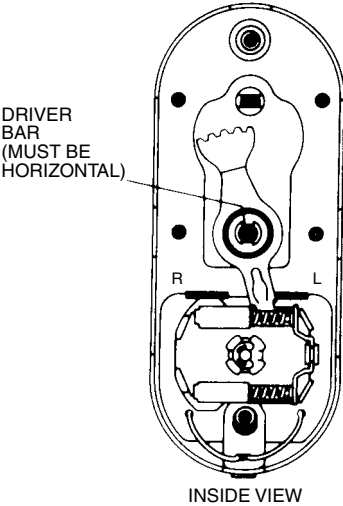

Figure 13.81 Changing hand, Step 12.
12. Install the driver bar—the bar is horizontal (Fig. 13.81).